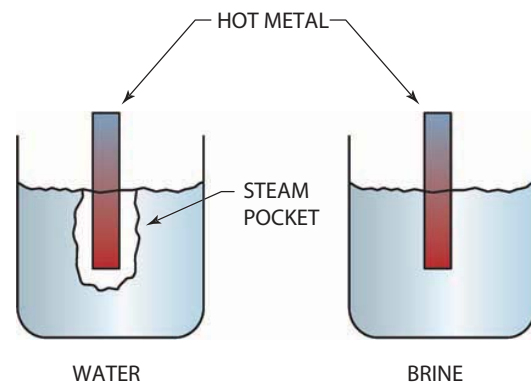

FIGURE 27-18 Effect of brine on quenching rate.
- Brine quenching—The part is immersed in a salt-water solution. The salt does not allow a steam pocket to form around the part, as happens with straight water. This results in the fastest quenching time, Figure 27-18.